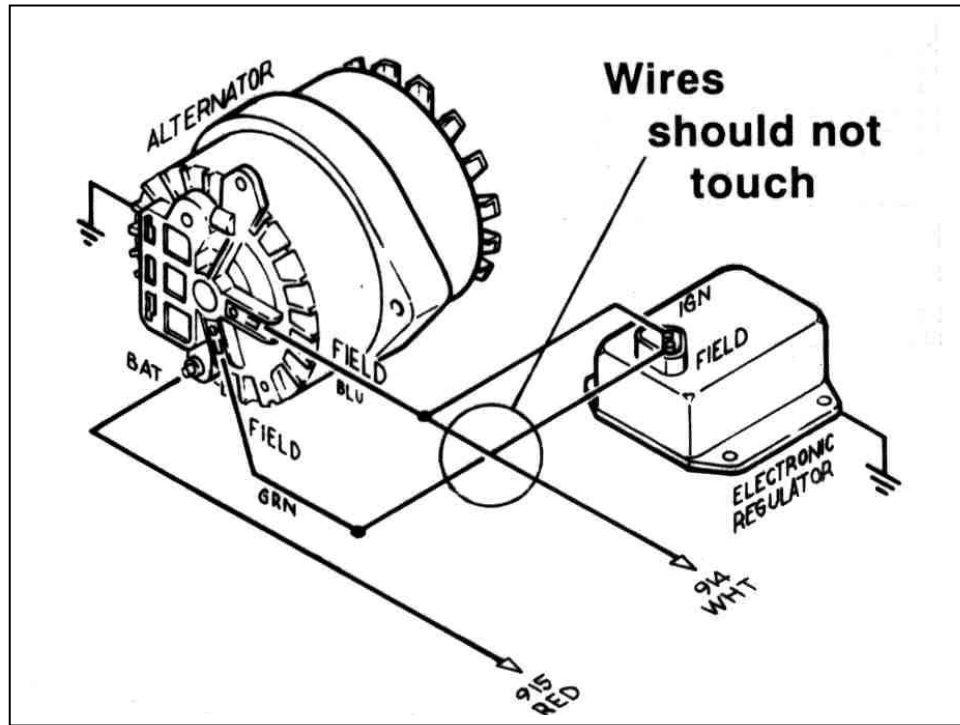

Figure 9-1A Mopar Alternator
- 9.1.2** Connect ENGINE SECTION wire #914 (wht) to the Alternator Field (F) terminal as shown in **Figure 9-1A**. Connect ENGINE SECTION wire #915 (red) to the Alternator Output lug (Bat).